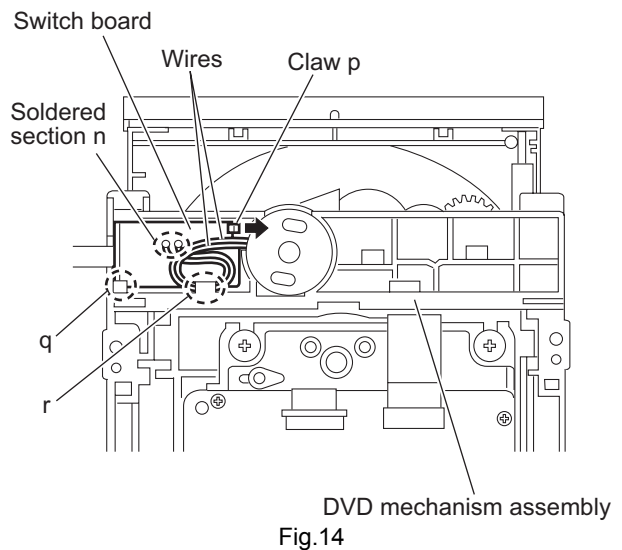

Fig.14
3.2.8 Removing the switch board (See Fig.14.)
3.2.9 Removing the motor (See Figs.14 and 15)
- (1) From the bottom side of the DVD mechanism assembly, remove the wires from the soldered section **n** on the switch board. (See Fig.14.)
Put the wires on the section **r** after attaching the motor to the DVD mechanism assembly. (See Fig.14.)